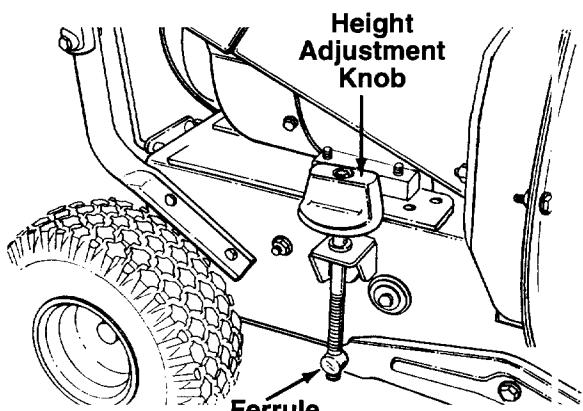

FIGURE 10.
- The height adjustment knob is located on the right hand side of the chipper-vacuum. See figure 10 for its actual location. Adjusting the height here will also raise or lower the height of the nozzle. For further adjustment of the nozzle height to control the flow, see the next section.